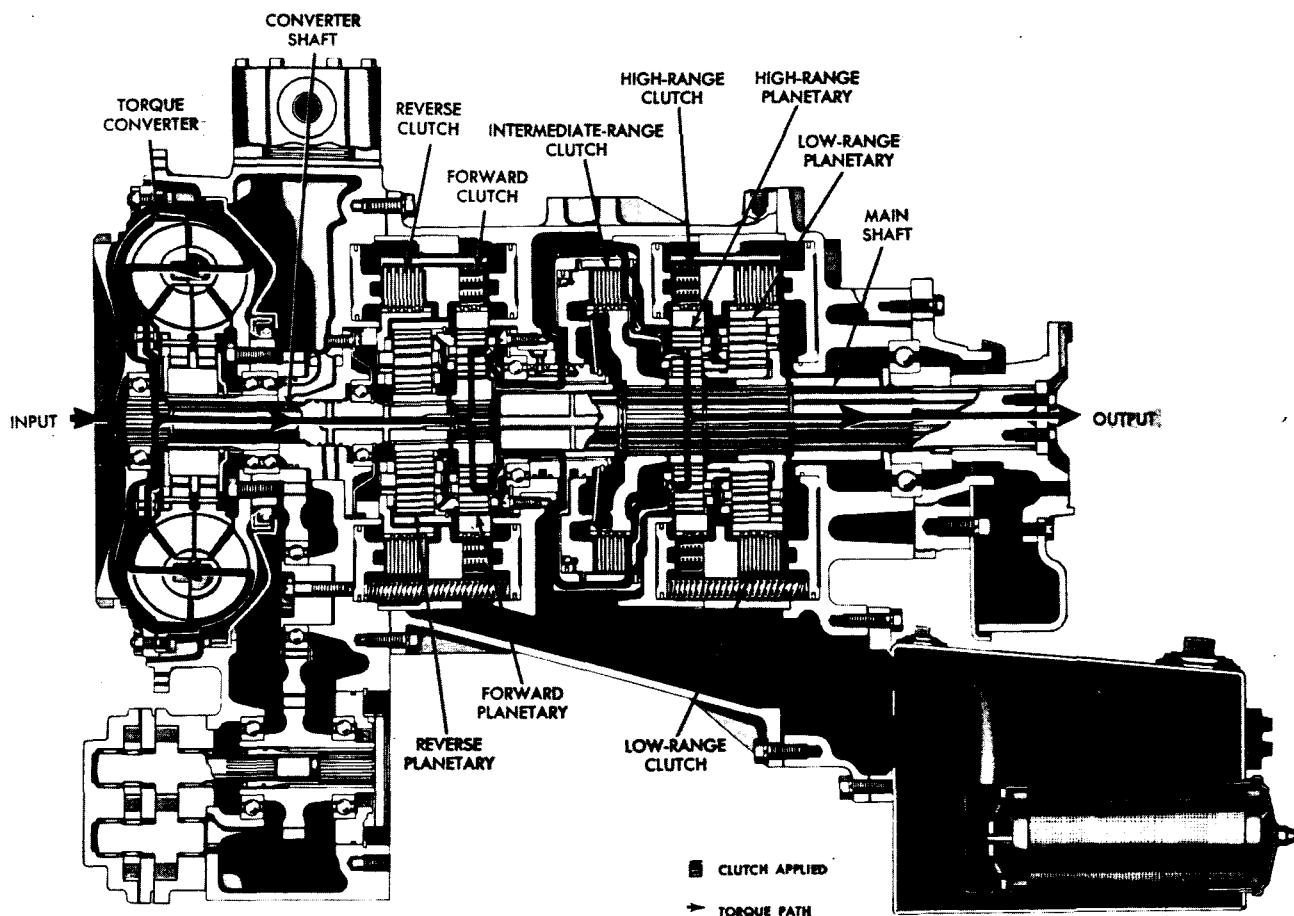

Fig. II-4. Forward, high-range—torque path (CRT 3331-3)
26. FORWARD, HIGH RANGE — TORQUE PATH (fig. II-4)